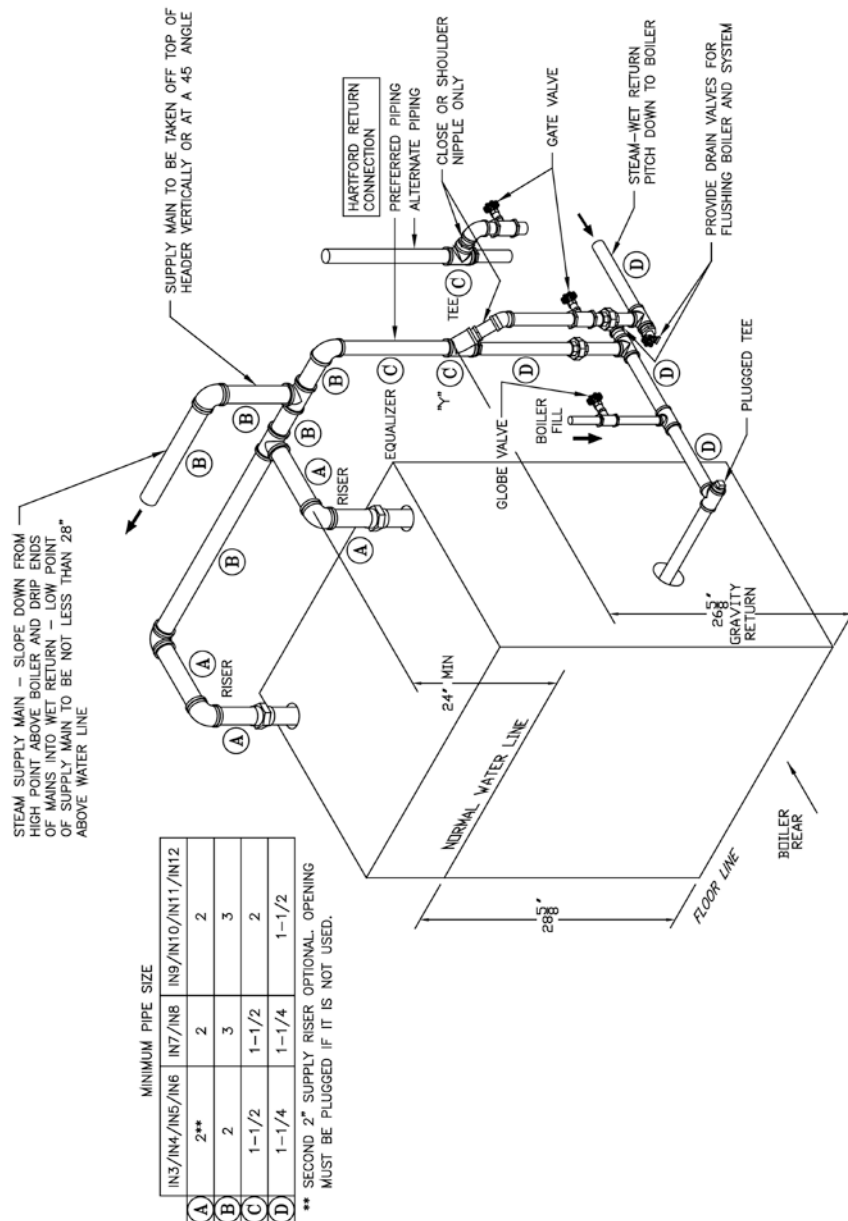

Figure 24: Steam Boiler Piping (Minimum)
1. For STEAM HEATING see Figure 24. Consult I=B=R Installation and Piping Guides.